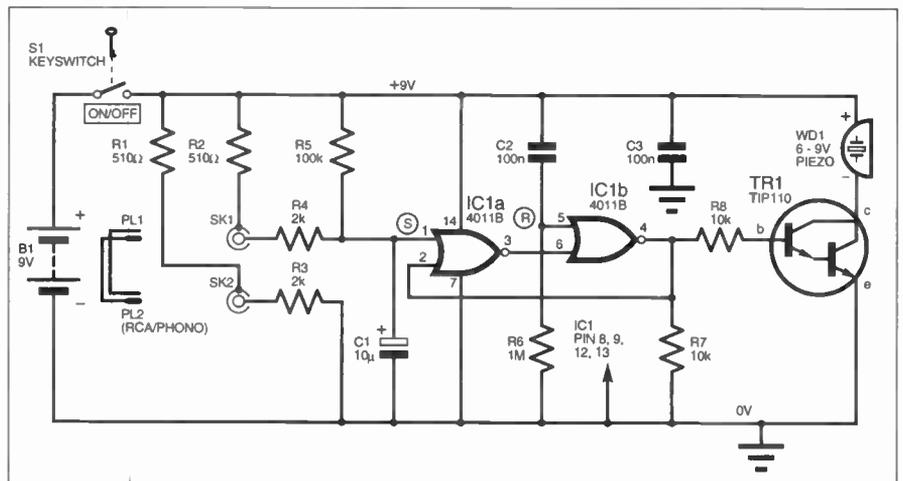

Fig.1. Circuit diagram for the Anti-Tamper Loop Alarm.
**T**HE circuit diagram of Fig.1 was designed as an anti-tamper bike alarm using a screened phono to phono (RCA plug) audio lead as the loop wire. The heart of the circuit is the SR latch based around two NOR gates IC1a and IC1b. This latches high at pin 4 when Set goes high and latches low when Reset goes high.